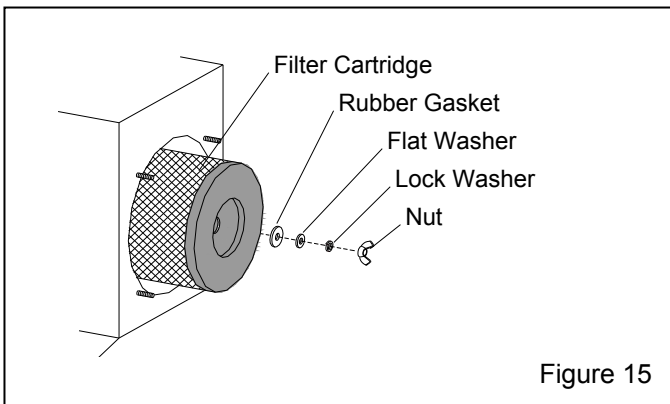

Figure 15
**6.3.3** Remove the nut, lock washer, flat washer, and rubber gasket from the cartridge support, as shown in Figure 15. Remove the cartridge through the opening, sliding it off the support. **NOTE: Contain dust by sliding a durable plastic bag over the cartridge as it is removed.**